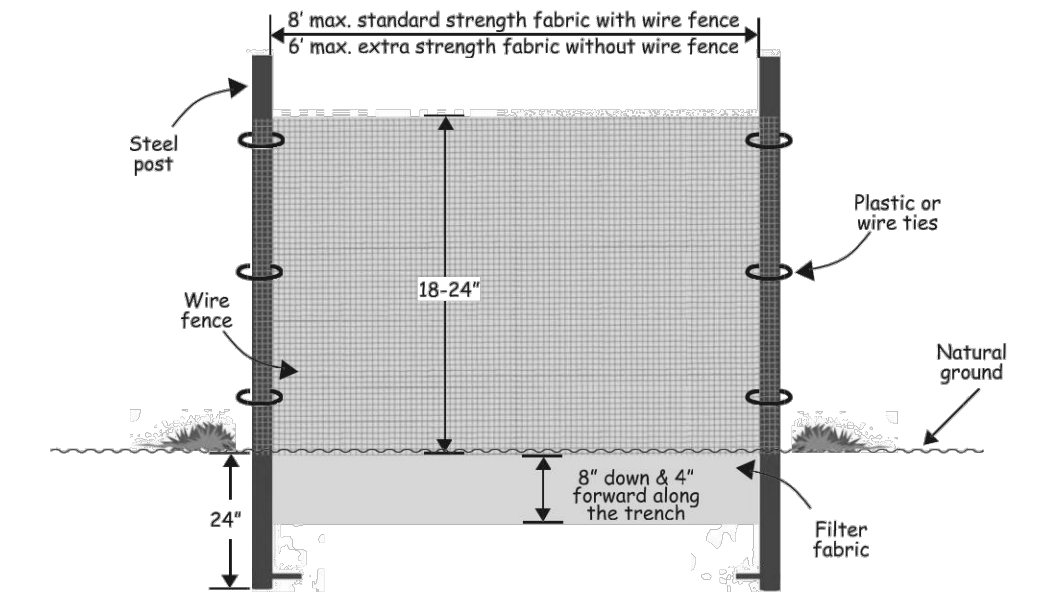

Figure 6.62a Installation detail of a sediment fence.
7. Excavate a trench approximately 4 inches wide and 8 inches deep along the proposed line of posts and upslope from the barrier (Figure 6.62a).